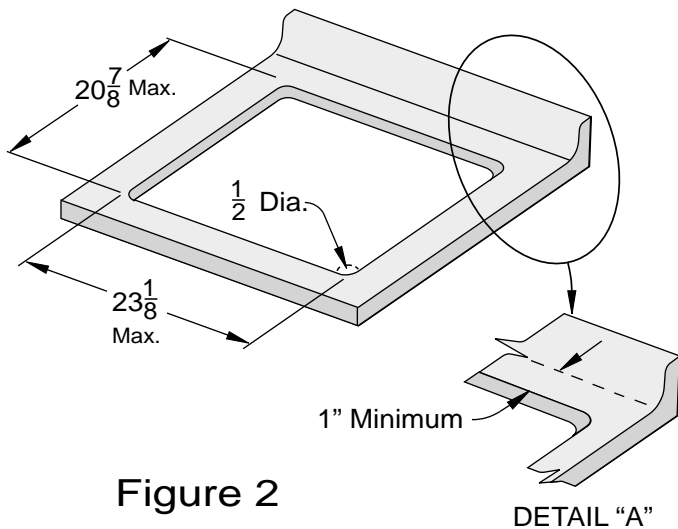

Figure 2
- Drill a 1/2" diameter hole at each corner of the cutout. Make a saw cut along the inside of the layout lines. (See Figure 2).